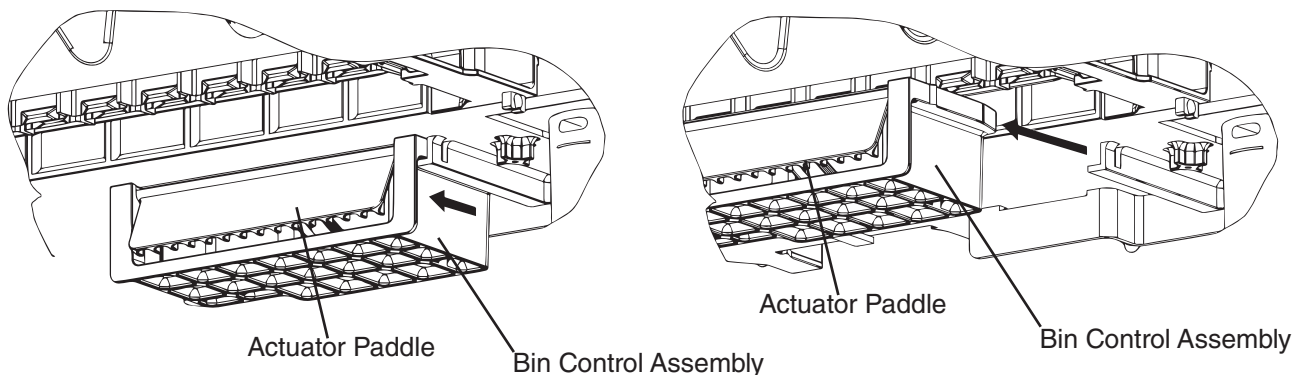

Fig. 4
- 4) Hold both sides of the mechanical bin control, then pull forward and remove. See Fig. 4.
- 2) Disconnect the silicone hose to drain the water, then after all the water has drained reconnect the silicone hose back in its correct position. See Fig. 4.
- 4) Disconnect the FS/CB 2-pin connector (1 black (BK) wire and 1 red (R) wire coming from FS and 2 red (R) wires coming from CB K1 connector pins 1 and 3).